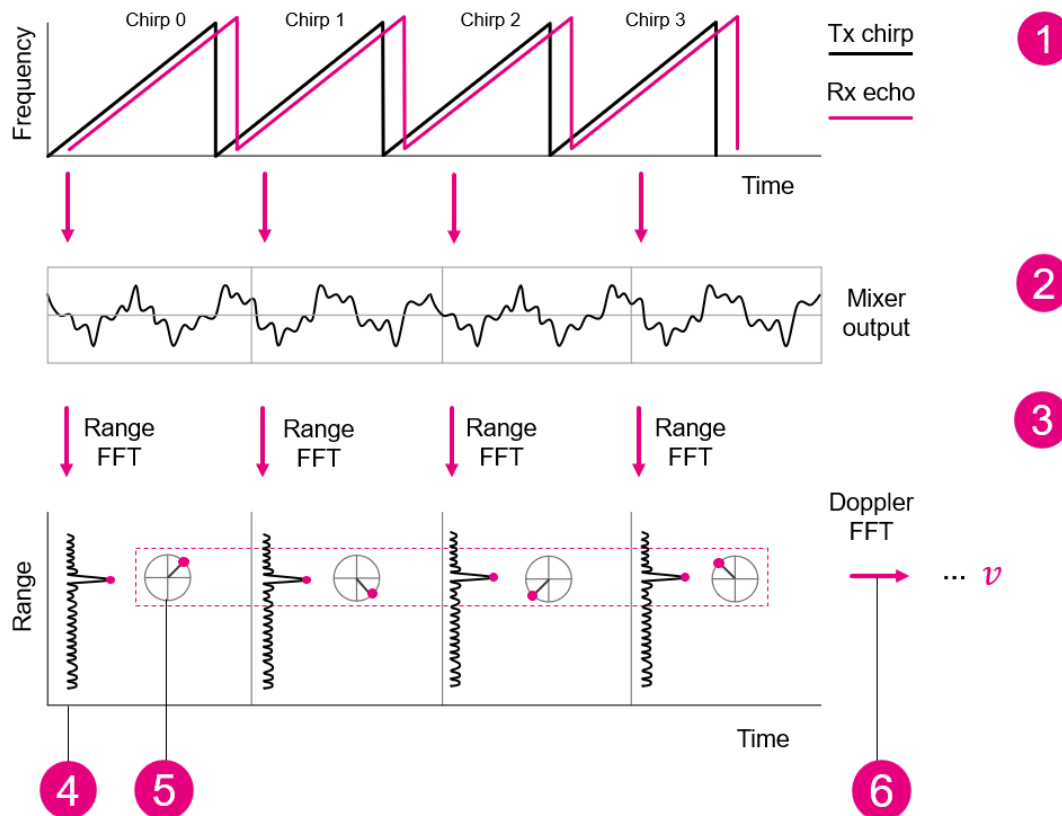

Figure 12. Velocity calculation
Returning signal (1) (see Figure 12) have a phase shift caused by a movement of the target objects. Longer frame length gives a better resolution because it's easier to distinguish the velocities.